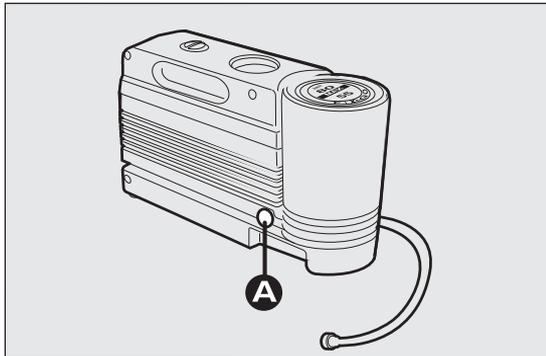

fig. 187
- press button A fig. 187 to release the part;